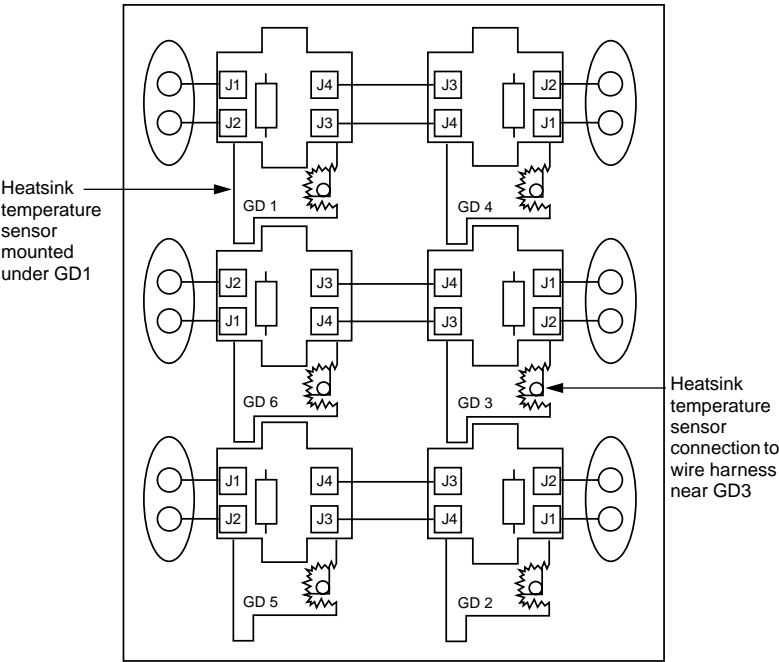

Figure 4.1.32: Heatsink Temperature Sensor
1. Remove gate driver boards GD1 and GD3 as described in the procedure on page 4.1.38. See Figure 4.1.32. Do not remove the gate driver wire connection at the IGBT module.